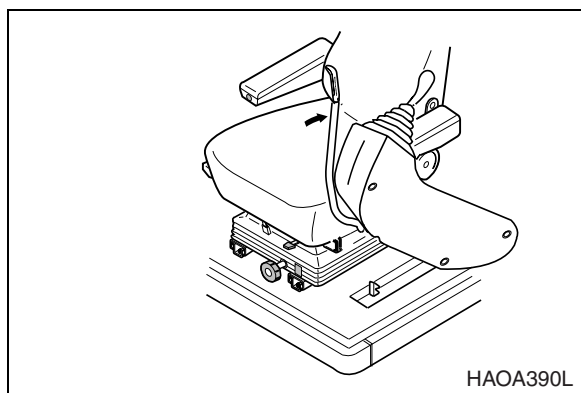

Figure 87
When leaving operator's seat, set the safety lever to "LOCK" (Figure 87) position, if not a serious accident could occur by accidentally moving the work levers (joysticks).
2. Set safety lever (Figure 87) on "LOCK."